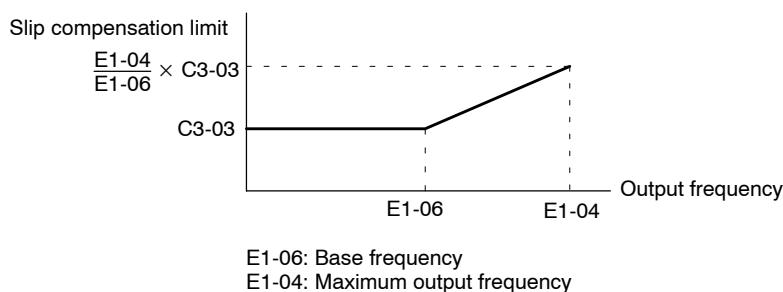

Fig 7.28 Slip Compensation Limit
- The limit is as shown in Figure 7.28 in the constant torque and constant output areas.